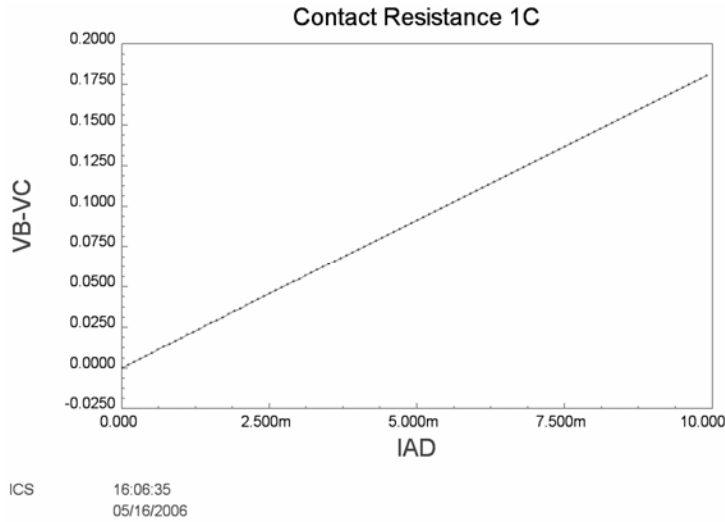

Figure 63: Diffused resistor IV curve
9. Figure 63 is showing the ultimate graph of the ID vs. VD